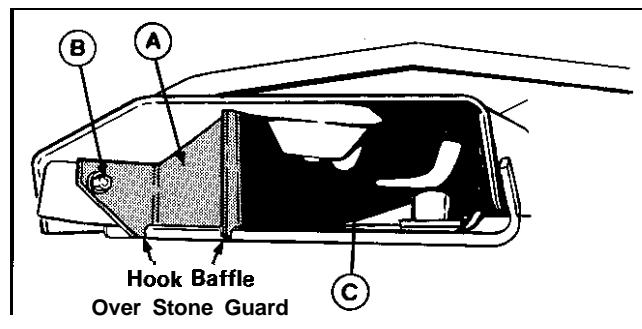

Figure 13.
13. Install the new baffle (A, figure 13) in deck on stone guard using existing hardware. Hardware may be installed with nut to inside or nut to outside.